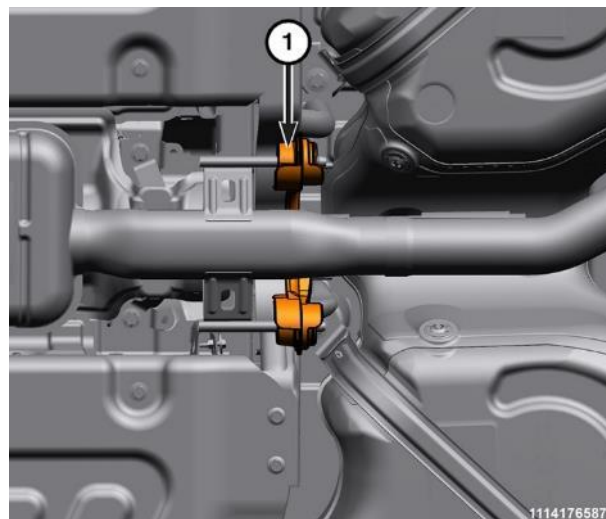

Figure 35 – Exhaust Isolators
14. Remove the two exhaust isolator bracket bolts (Figure 35).